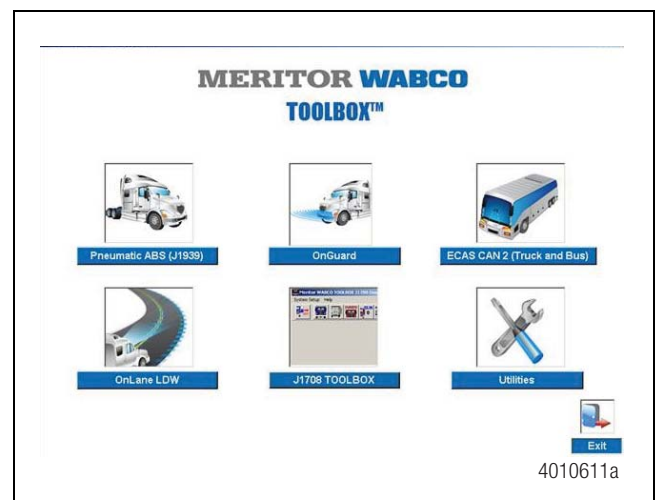

Figure 3.5
To access “Adapter Selection” for TOOLBOX™ Software 11 or newer, click on “Utilities” from the main TOOLBOX™ page or under “System Setup” in “J1707/PLC TOOLBOX” from the main TOOLBOX page. Figure 3.5.
- If using TOOLBOX™ 11 or higher and a vehicle with Software ECU E4.4b or higher, diagnostics over J1939 communications can be possible. Figure 3.5.